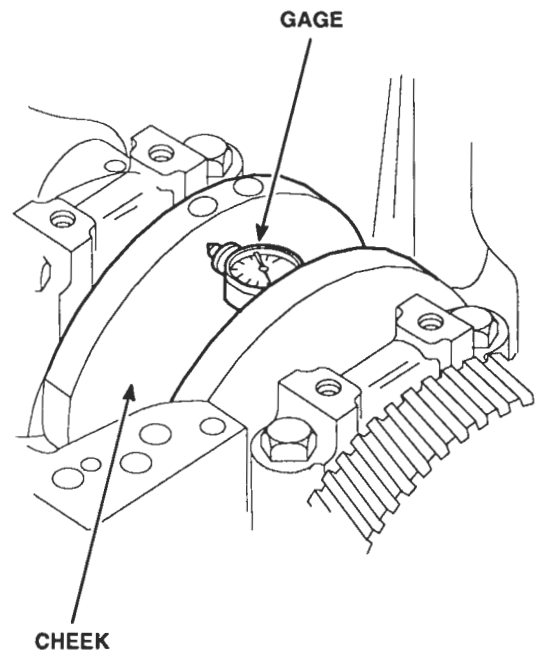

Figure 10. Crankshaft Distortion Measuring Gage Mounted on Crankshaft
- c. Install a gage (Starrett Co. No. 696 dial gage, or equivalent) in the center punch holes in the cheek of each counterweight (Figure 10.)